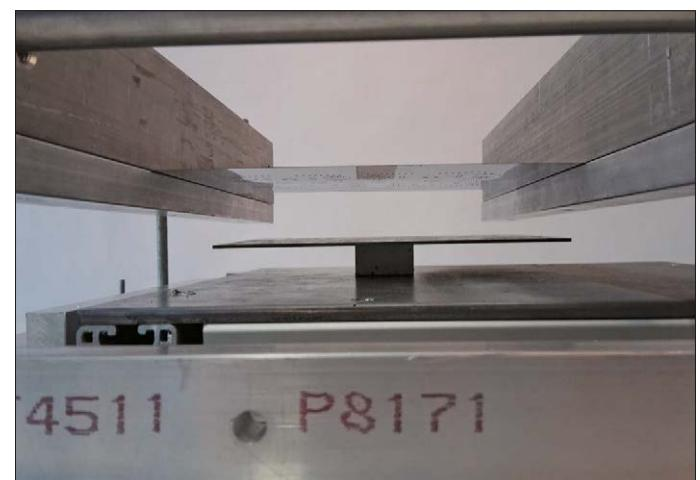

Figure 3. The stencil is clamped firmly in the jaws. At this stage the PCB has not been positioned; it will be located afterwards using magnetic feet.
The stencil jig on the circular rods consists of two guide rails (12), on which the clamping jaws (13) are mounted from below. The jaws are fixed to the guide rails with three screws each and clamp the stencil tightly in this way (**Figure 3**). Whereas the rear guide rail is fixed to the rods using headless locking